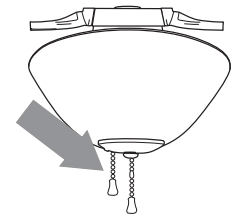

Fig. 1
1. The fan pull chain (located to one side) has four positions to control fan speed. One pull is HIGH, two is MEDIUM, three is LOW and four turns the fan OFF. [Fig. 1]